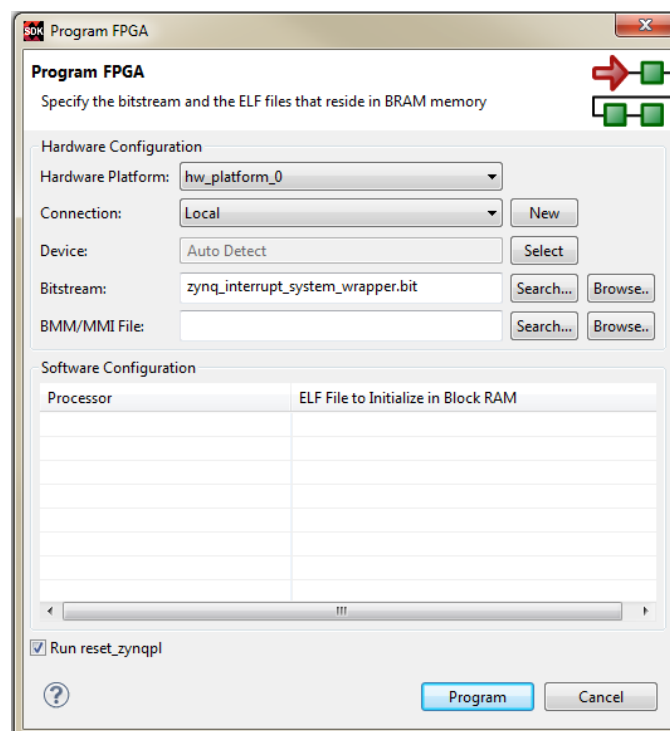

Figure 2.23: Program FPGA dialogue window
- (i) Download the bitstream to the Zynq PL by selecting **Xilinx Tools > Program FPGA** from the *Menu bar*. The *Program FPGA* window will appear. The Bitstream field should already be populated with the correct bitstream file, as in Figure 2.23.